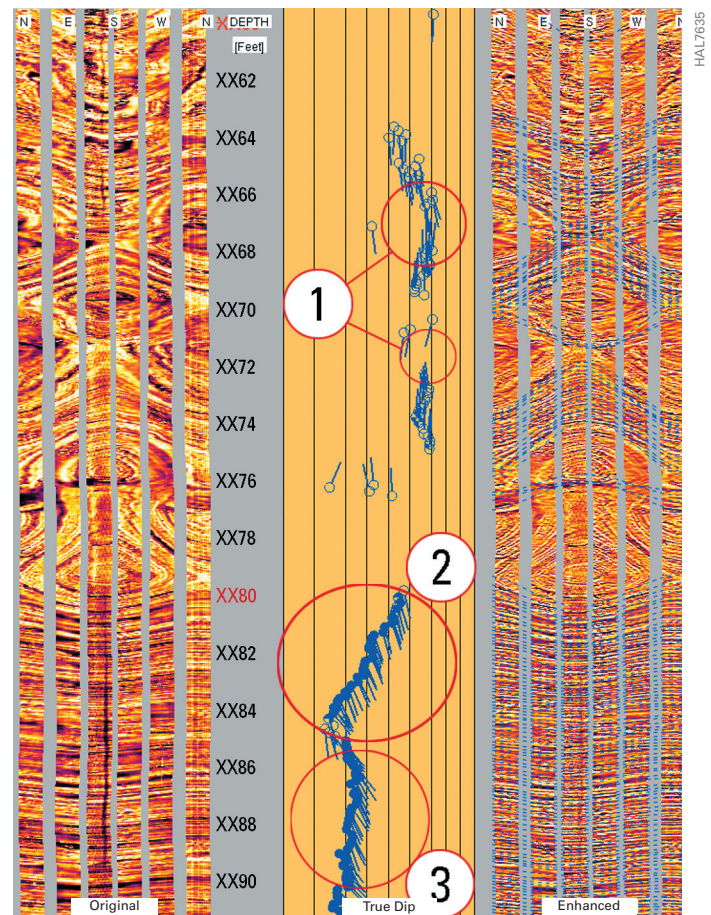

Figure 1 – Automatic dip computation showing dip reversals due to slumping.
Figure 1 shows how AutoDip spots dip reversal (1). The computed dip trend for decreasing dip with depth under the slump (2) is followed by the structural dip (3).